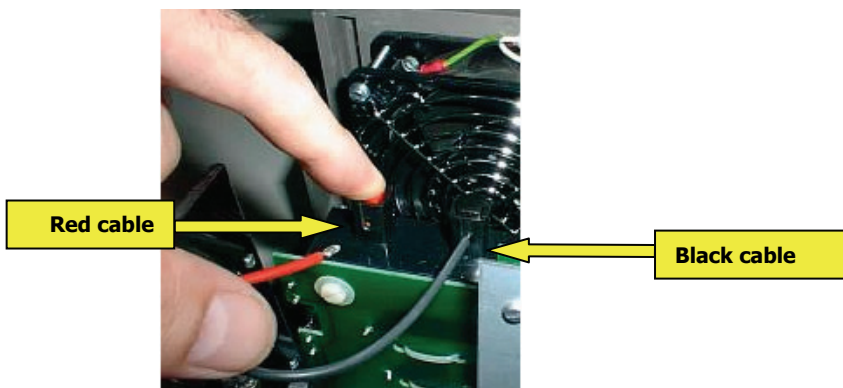
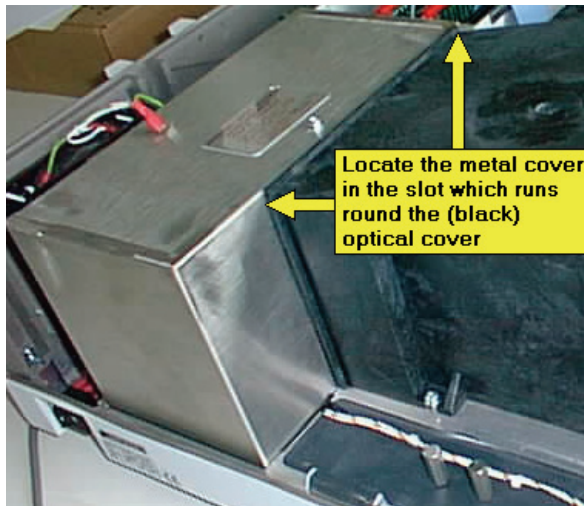

Figure 74 Connecting the cables
Figure 75 Replacing the cover
2. Undo the 3 screws which secure the middle optical cover, as shown in Figure 74 and Figure 75.